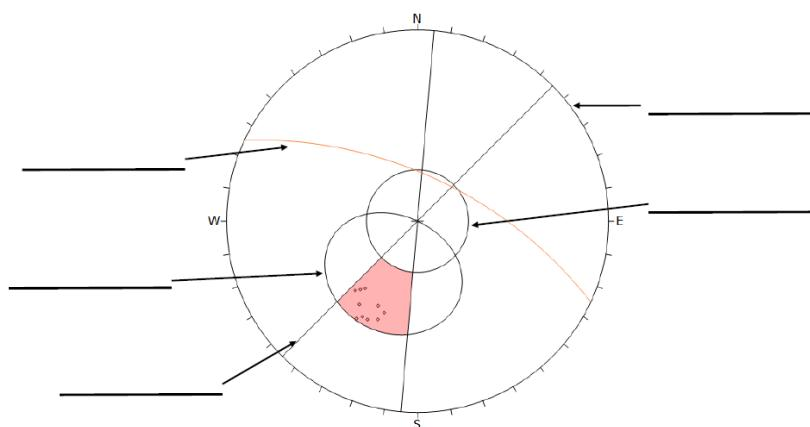

Figure Q5
- b. The stereonet in Figure Q5 below shows a kinematic analysis of the southern slope of the quarry at Burrington Coombe, the poles plotted on the stereonet represent the bedding at the site. Label the diagram correctly using the labels provided below: